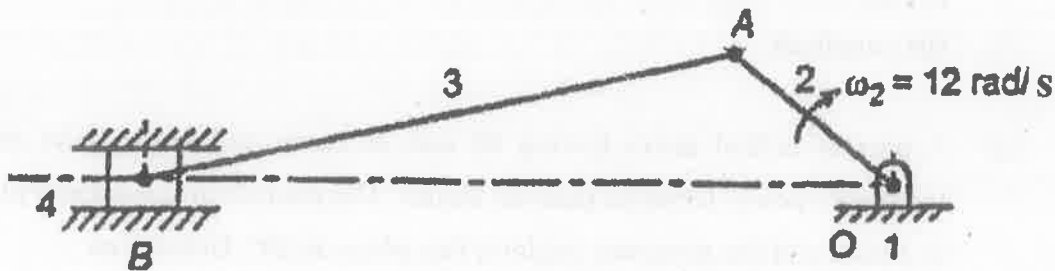

Fig. 12 (a) Slider-crank mechanism
12. (a) Locate the instantaneous centers of the slider crank mechanism shown in Fig. 12 (a). Find the velocity of the slider. $OA = 160$ mm, $AB = 470$ mm, and $OB = 600$ mm, $\omega_2 = 12$ rad/s clockwise.